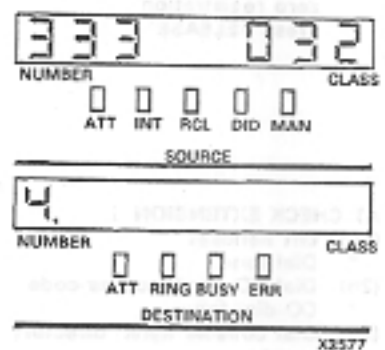

Fig. 321-2
- \* SOURCE display shows room number and new message registration (Fig. 321-2)